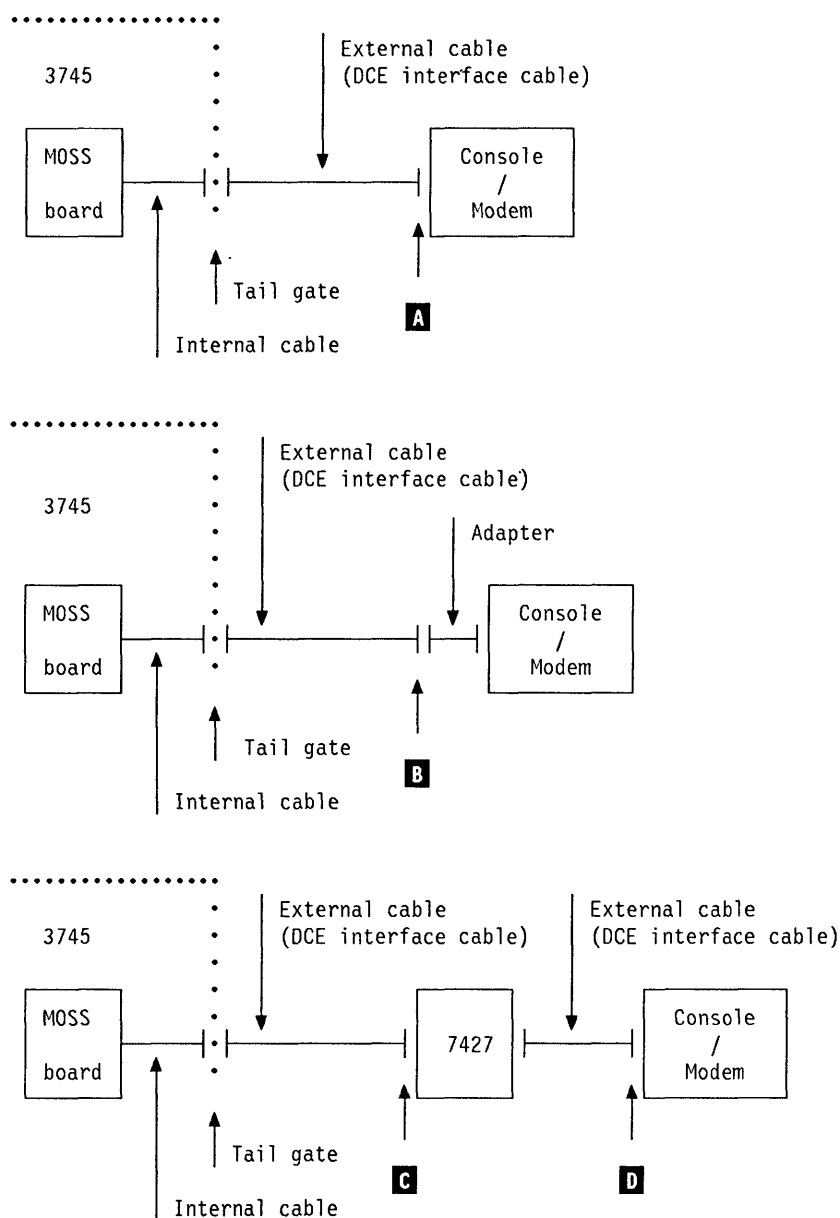

Figure 4-10. Cable Configurations
4. We advise you to start the "wrap plugging" from the far end of the DCE interface cable. Refer to Figure 4-10 on page 4-23 for the different cable configurations.
- a. DCE interface cable between the 3745 and the console/modem **without** intermediate "adapter" - (**A** in Figure 4-10)
- b. DCE interface cable between the 3745 and the console/modem **with** an intermediate "adapter". - (**B** in Figure 4-10)
- c. DCE interface cable between the 3745 and the console switch (7427) - (**C** in Figure 4-10)
- d. DCE interface cable between the console switch (7427) and the console/modem - (**D** in Figure 4-10)